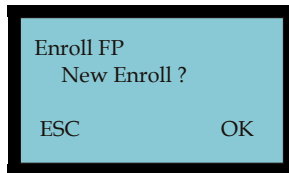

Figure 2-54 Enroll FP Screen
4. Press **OK** and Enroll FP New Enroll? will appear (see **Figure 2-54**).